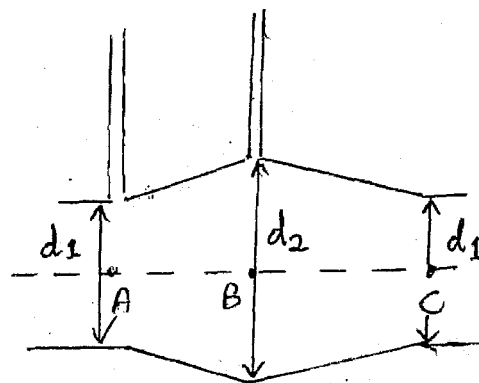

Figure 3
3) A student plans to use the pipe section ABC, shown in Figure 3, as an instrument to measure the discharge of water in a pipeline. The section ABC consists of an expansion section AB where the pipe diameter increases to a maximum at B and a contraction section BC where the pipe diameter decreases to the original diameter at C.